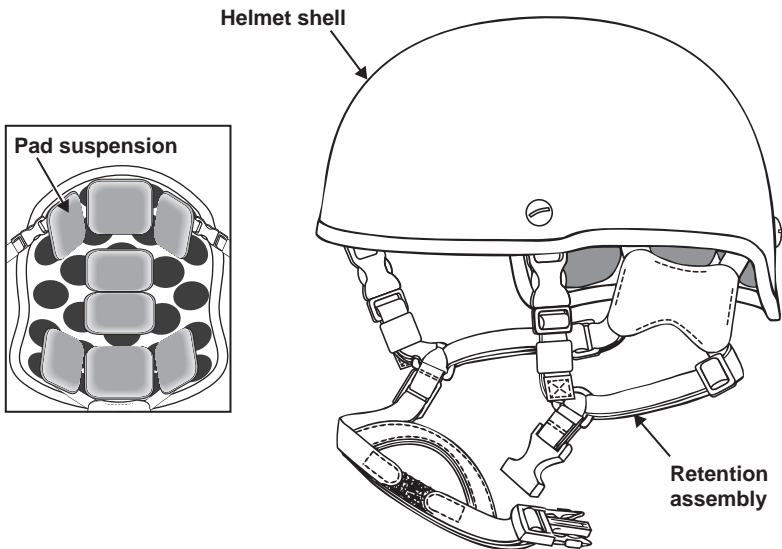

Figure 1. Phonetalker Type III Helmet
- The helmet (**Figure 1**) is designed to accommodate various headsets, including sound-powered headsets used on naval vessels.